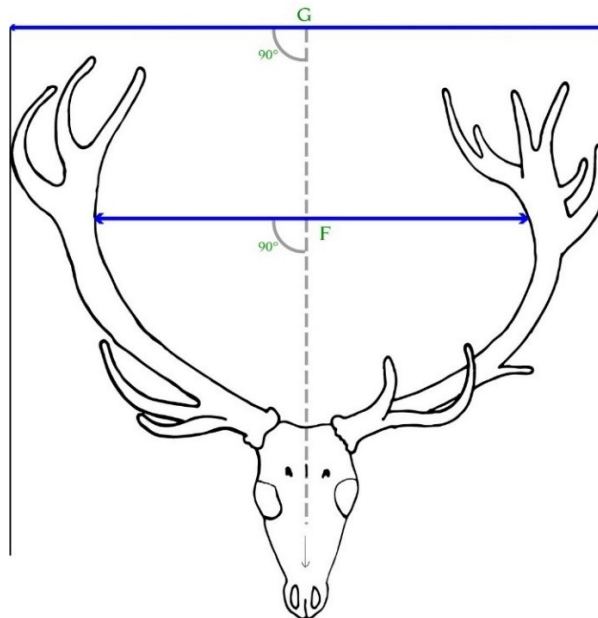

Figure 18
Spread (G) is the widest outside measurement a rack will reach from side to side. This is sometimes taken from tine end to another tine end but can also be taken from the main beams or the outer curve of a tine that curves out and then curves inward. The span is the inside measurement between the main beams, not any tines. Both are taken a 90-degree angle to the centerline of the skull. (Figure 18) *An injured skull, pedicle or antler may result in an extreme spread or span. Such cases must always be noted on the method forms.*